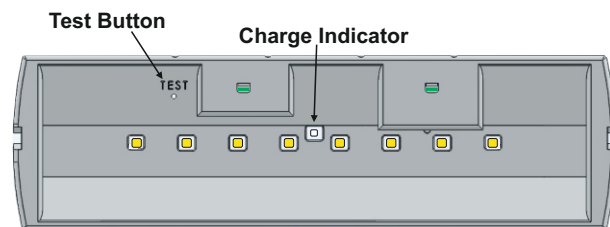

Figure 5
- It is suggested to check every month the indication LED for battery charging, and by pushing the TEST button using a pointed object (to access the TEST button you must remove the diffuser) to check the emergency circuit (Figure 5). The led strip should light as long as the TEST button is pressed. If the